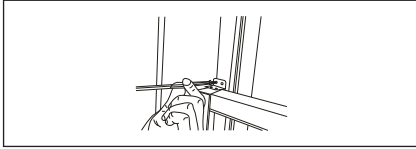

Fig. 16
6. To secure lower sash in place, attach right angle sash lock with 1/2" (12.7mm) screw as shown (Fig. 16).